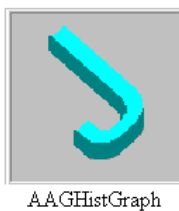

Figure 37. Identifies the Java Applet for the chart (AAGHistGraph class)
16. Double-click the chart applet (as shown in Figure 37).